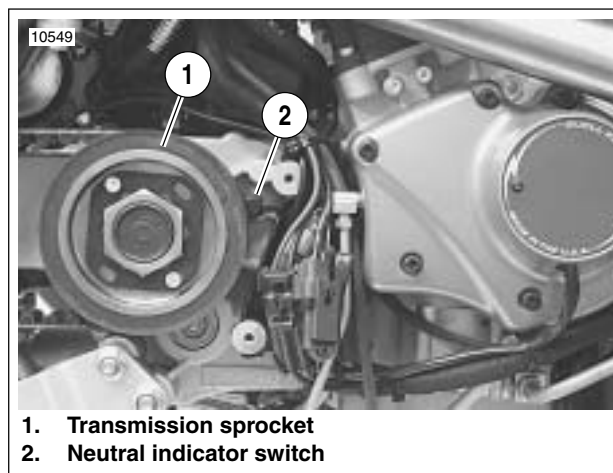

Figure 7-77. Neutral Indicator Switch Location
See Figure 7-77. The neutral indicator switch (2) is threaded into the transmission portion of the right crankcase half. It is immediately forward of the transmission sprocket (1). The sprocket cover must be removed to test the switch.
2. See Figure 7-77. Disconnect wire lead from neutral indicator switch (2).